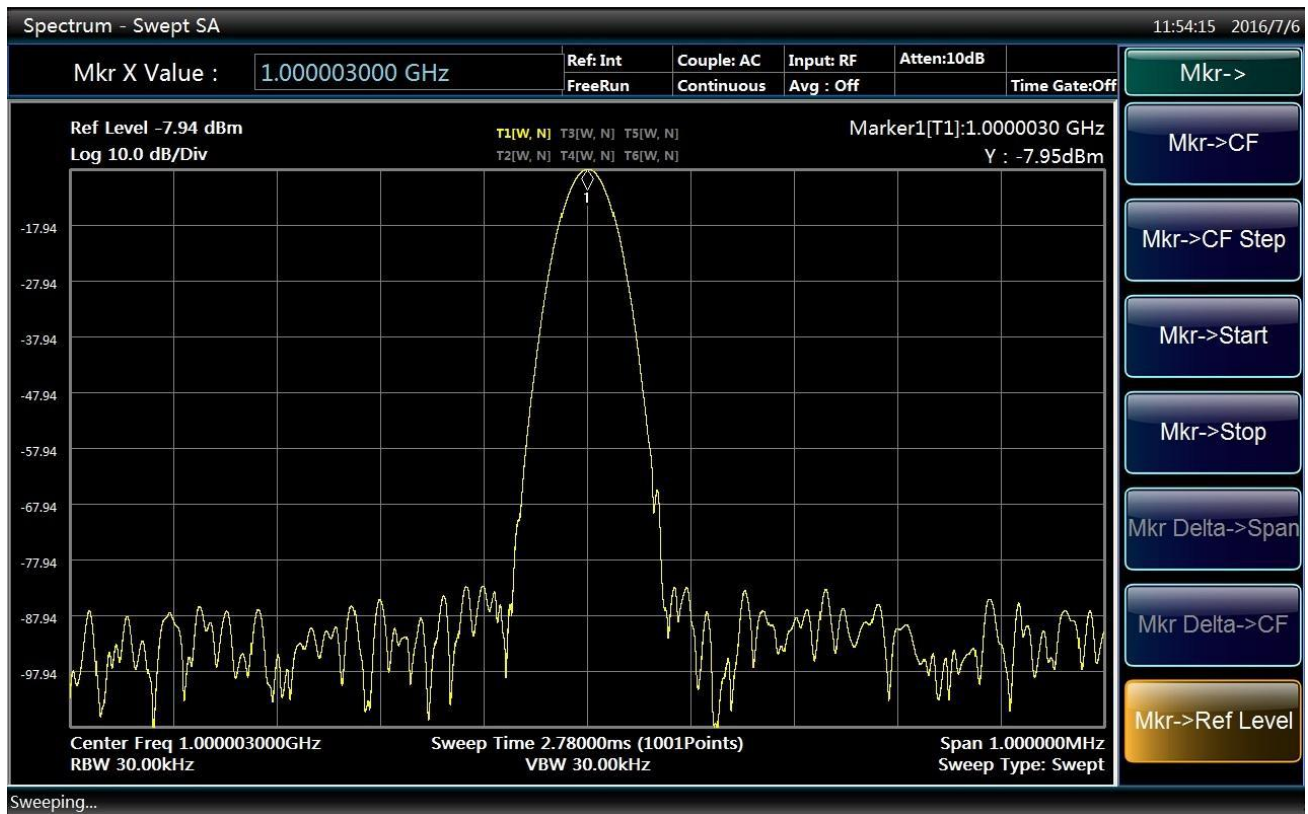

Fig. 4.21 Display interface of input signal with 1 MHz frequency span
- Press **【Marker →】** and [Marker → Ref Level] to obtain an interface as shown in Fig. 4.21.